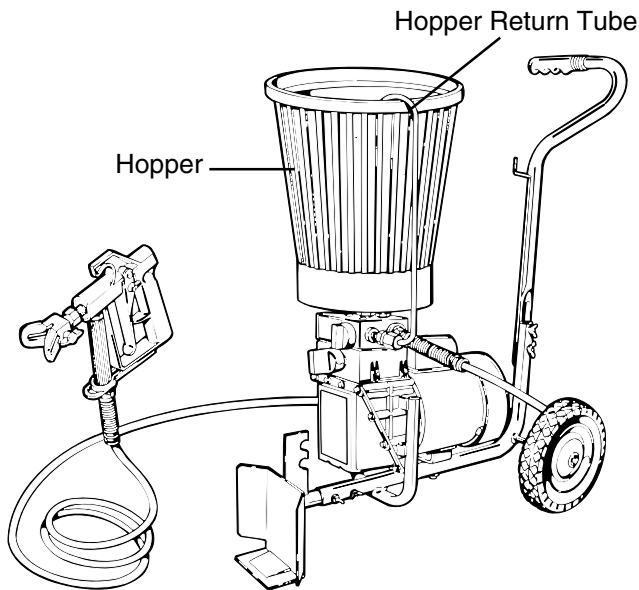

Figure 49 - Optional Hopper
2. To convert the cart into its horizontal configuration as shown in Figure 49, reverse the positions of the handle and pail bracket.